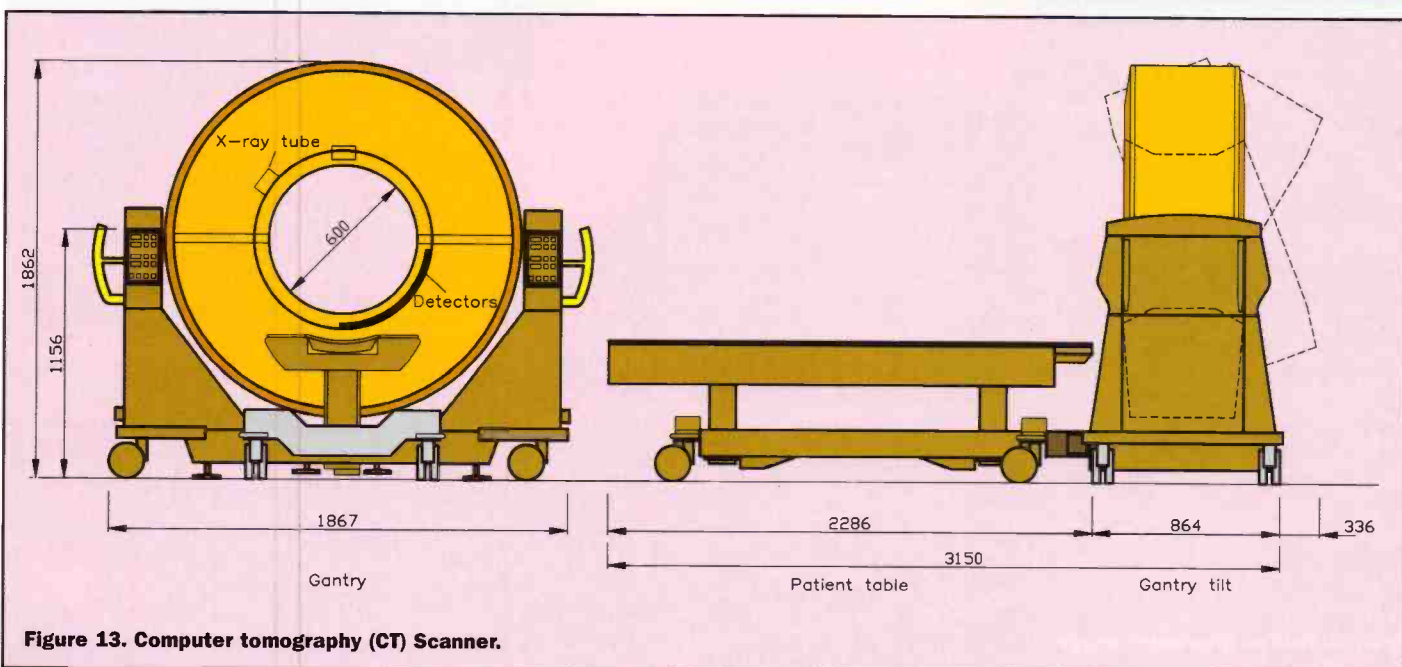

Figure 13. Computer tomography (CT) Scanner.
Another means of achieving body images is by tomography - scanning narrow cross-sections, or slices, through patients. Computed tomography (CT) is one such means. A gantry with a body aperture contains an X-ray tube that passes X-rays through the patient to be received by an arc of hundreds of detectors on the opposite side (Figure 13). Tube and detectors rotate 360° around the body to obtain a